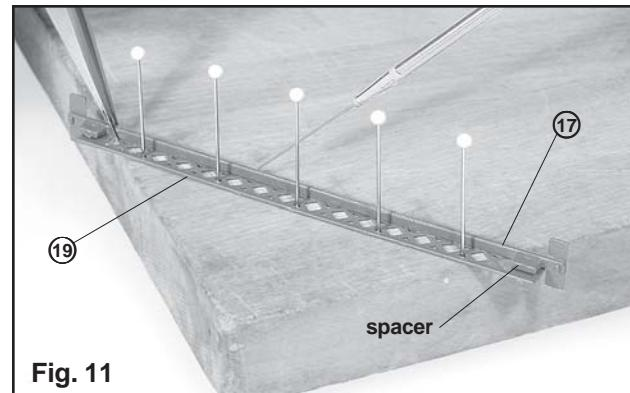

Fig. 11
11. Cement a **tower strut side, inside** part (16) or (17) to a **tower strut lattice** part (19).
On a block of soft wood or a piece of cardboard, place part (19) with the rib side up, across a corner of the block so both ends overhang the block slightly. See fig. 11. Pin the part to the block with several straight pins so it cannot move. Place part (17) on edge on part (19), against the inside of the raised rib, with the spacers to the inside and flush with the ends of part (19). Apply cement along the rib, making sure part (17) is vertical and perpendicular to part (19). Use the plates at each end for reference.
12. Cement a **tower strut side, outside** part (18) to the tower strut assembly.